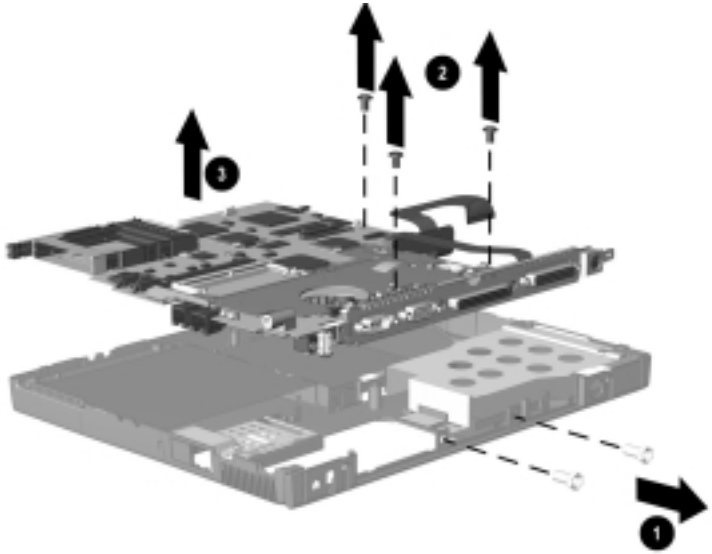

Figure 5-25. *Removing the System Board*
5. Remove the two bushing guides ❶ that secure the system board to the I/O bracket (Figure 5-25).
6. Remove the three screws ❷ that secure the system board to the base enclosure.
7. Lift the system board straight out of the base enclosure ❸.